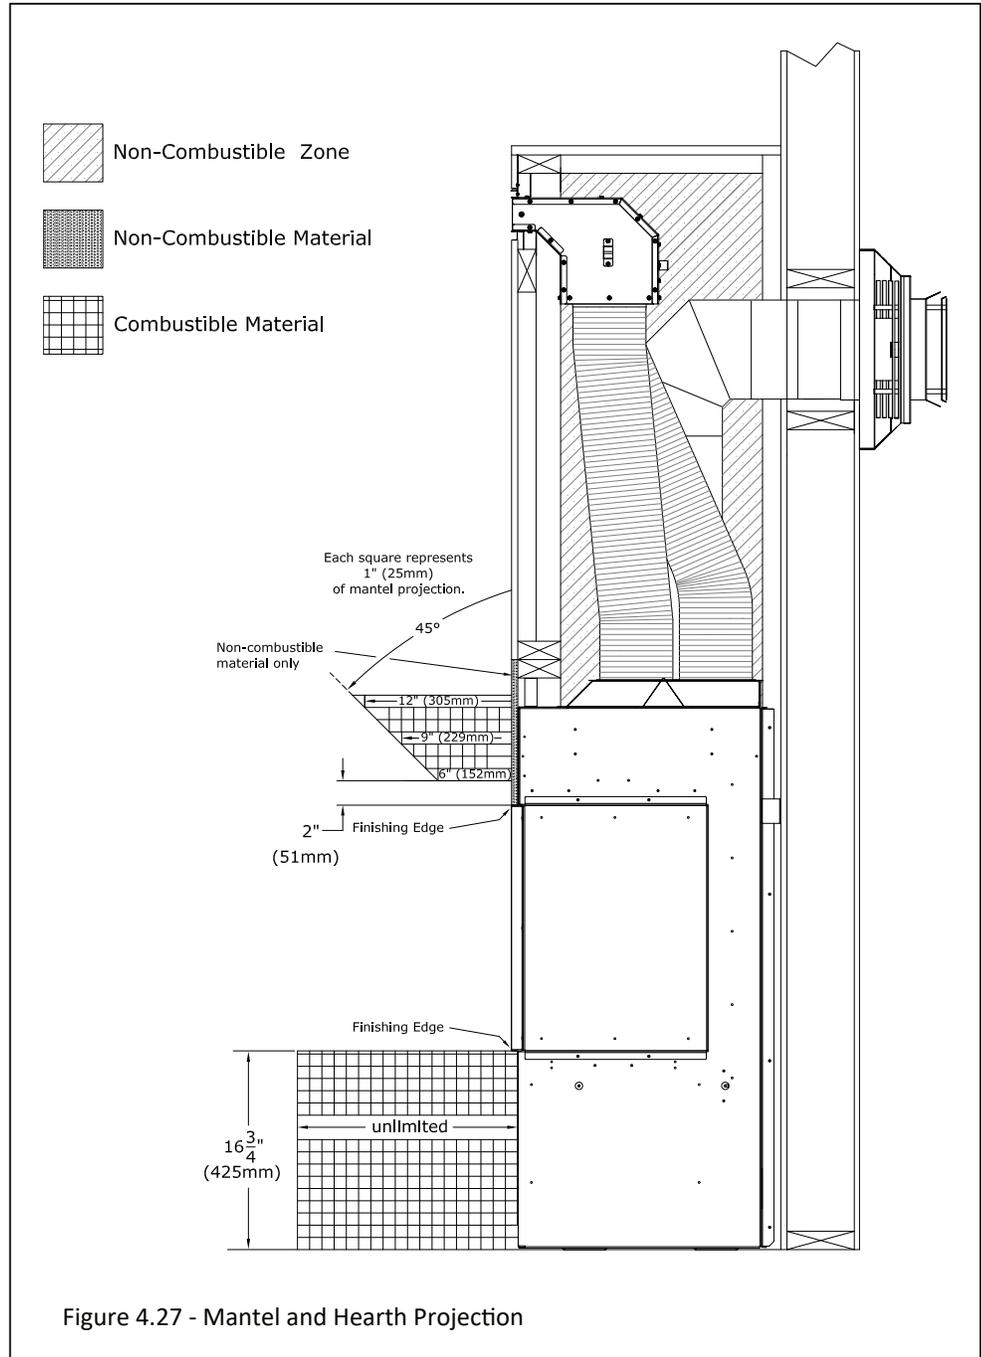

Figure 4.27 - Mantel and Hearth Projection
- Combustible Mantel Projections:** A maximum of a 6" (152mm) mantel can be installed at 2" (51mm) above the top finishing edge. Mantel projections can increase 1" (25mm) of depth for every 1" of height starting at the 6" (152mm) mantel. See Figure 4.27.
- Combustible Hearth:** Combustible hearth can have an unlimited projection. Hearth can be raised flush to the bottom finishing edge. See Figure 4.27.